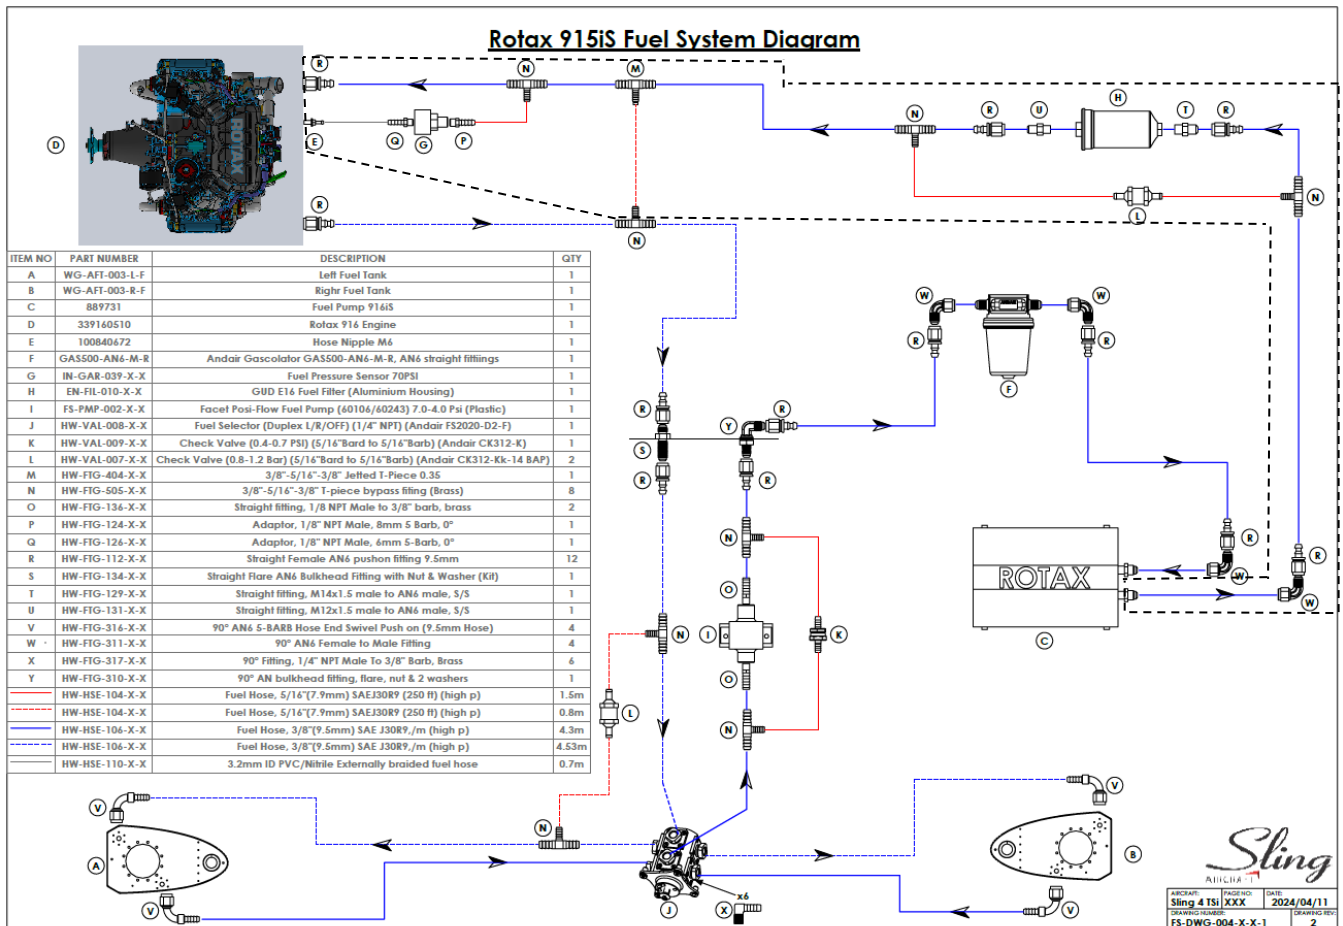
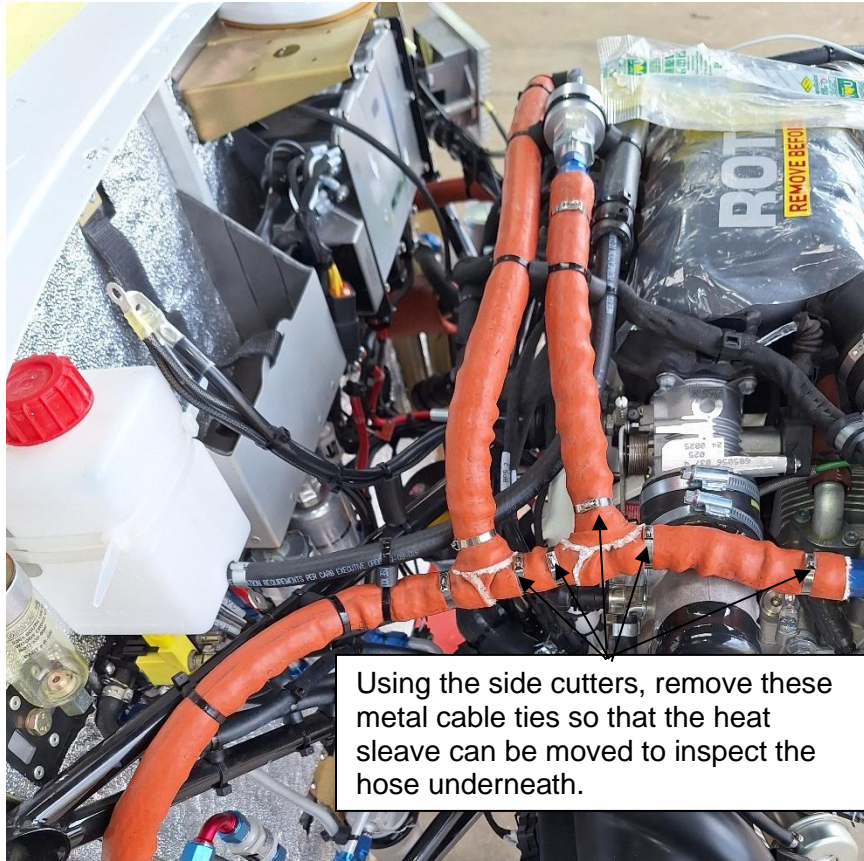

Figure 6: 915 iS Fuel System Diagram
Figure 7: Example of cable ties to be removed.
With reference to Figure 6, all the fuel lines bounded within the dashed line “----” must be inspected and replaced should they be of the sub-standard type of fuel hose. It must be replaced with the correct fuel hose as described in Section 2.
- Step 2:** The heat sleeve around the fuel hose will be secured in place using either locking wire or metal cable ties. Once the cowling has been removed, use the side cutters to remove these so that the heat sleeve can be moved to inspect the hose underneath. Refer to Figure 7 for an example of how the heat sleeve is attached using the cable ties. Please note, Figure 7 is just for reference purposes, all the fuel lines (as shown in Figure 6) must be checked.
- The heat sleeve around the fuel hose will be secured in place using either locking wire or metal cable ties. Once the cowling has been removed, used the side cutters to remove these so that the heat sleeve can be moved to inspect the hose underneath. Refer to Figure 7 for an example of how the heat sleeve is attached using the cable ties.